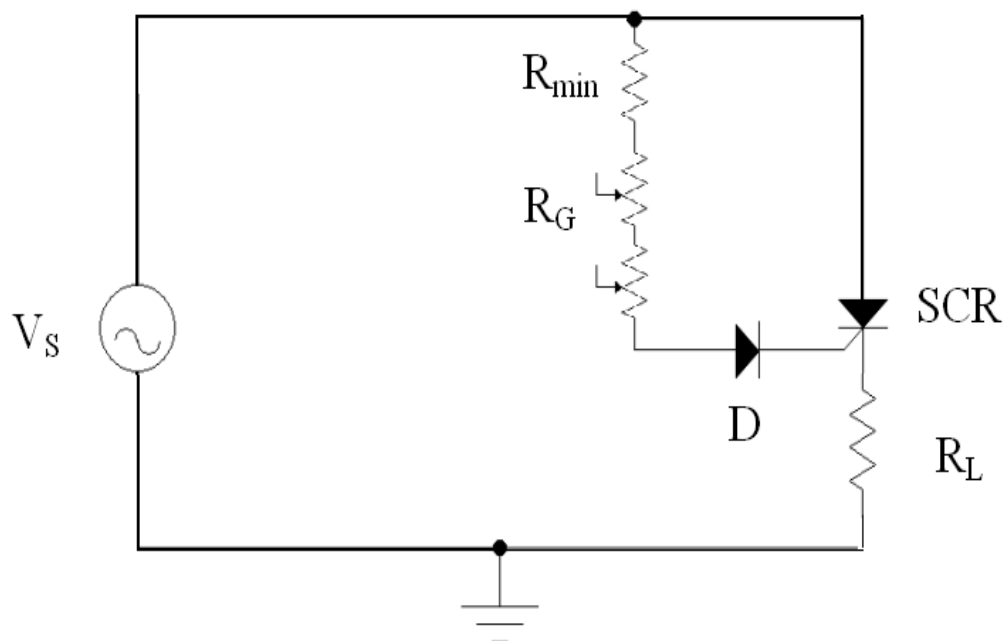

Figure 1
Arrange the circuit as shown in figure1. Locate a commercially available SCR which can serve load resistor of 10ohms and inductor of 50mH. The circuit is being energized by a 230V(rms), 50 Hz AC source. Mention the part number of the SCR, download its spice model to import in LTspice, and also download its datasheet to conduct the oncoming calculations. Make an educated choice of the diode as well.
1. Arrange the circuit as shown in Figure 1 and apply the input voltage.